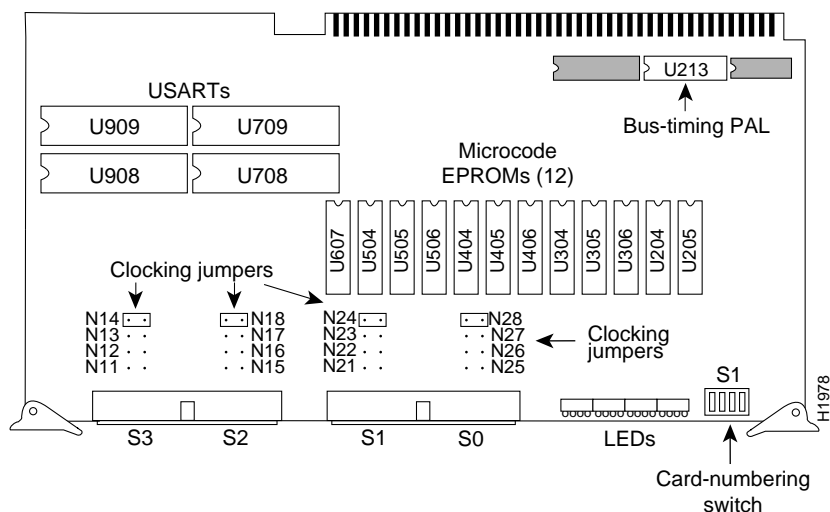

Figure 14 CSC-SCI Card—Component-Side View
The bus-timing PAL on the CSC-SCI is in socket U 213, which is located in the upper-right rear portion of the card. (See Figure 14.) If the PAL is already Part Number 17-0675 (or later), the CSC-SCI card needs no further modification. If the PAL is Part Number 13/107A or 17-0038, use the following procedure to remove the CSC-SCI from the card cage and replace the PAL.
- Step 2** Remove the card. Use your thumbs to pull the ejector tabs out and away from the card edge to loosen it, and pull the card out of its slot. Place the removed card on an antistatic mat or antistatic foam. (Refer to Figure 14.)